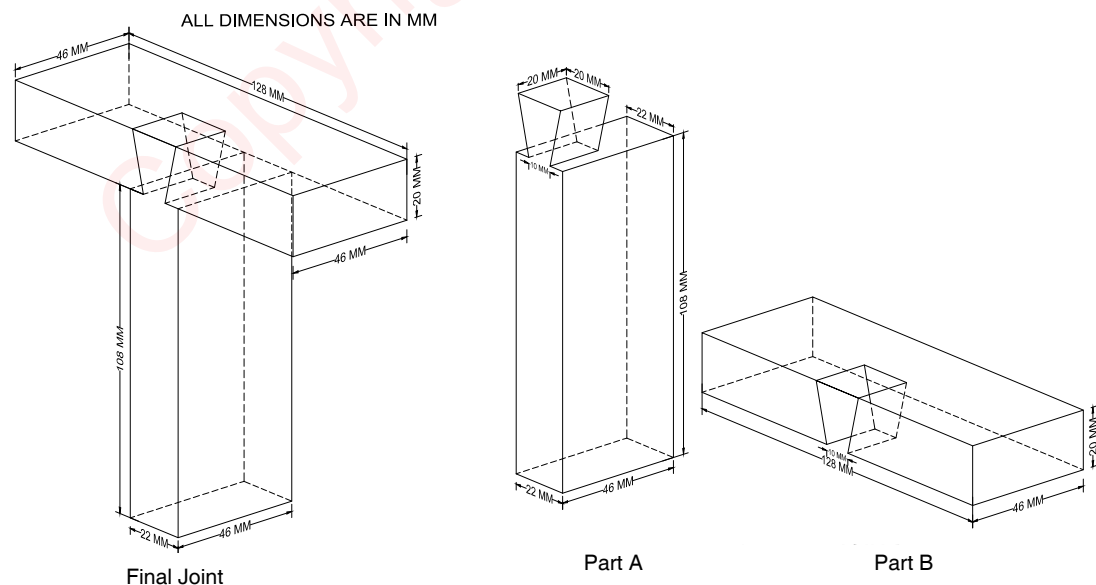

Fig.4.7: Job Dimensions for Dovetail Joint
- 6. Set the marking gauge and mark the lines at 46 mm and 22 mm as shown in Fig.4.7.
- 8. The mating dimensions of the 'Part A' and 'Part B' are marked as per given drawing in Fig.4.7.